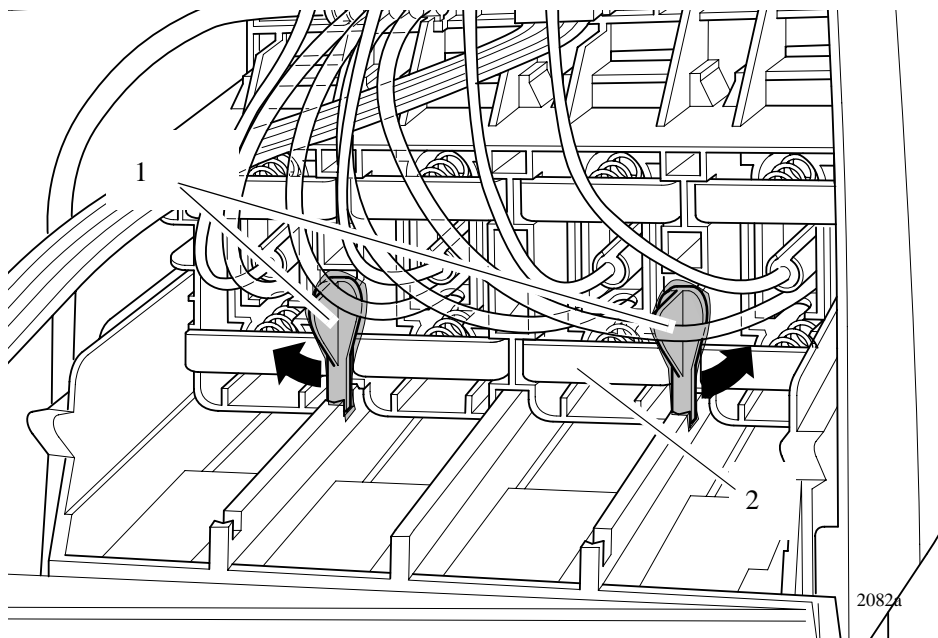

Figure 65: Latches
9. Twist the two latches (item 1) at the rear of the ink cartridge tube connector (item 2) to the outwards. This will release the complete assembly (refer to Figure 65).